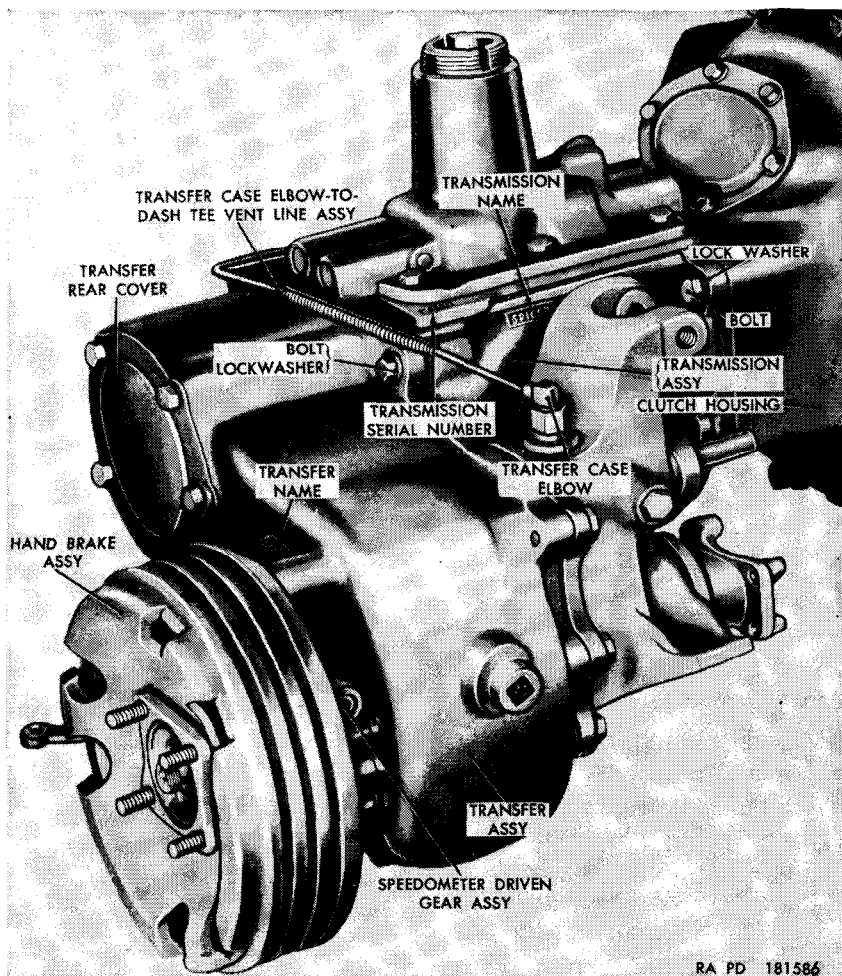

Figure 90. Transmission and transfer installed on engine.
(fig. 90)
- c. Remove the two bolts and lockwashers securing the clutch linkage inspection cover (fig. 31) and remove the cover. Reach through the inspection hole and disconnect the clutch release bearing carrier spring from the carrier and the bracket on the clutch housing and remove the spring. Remove four bolts and lockwashers (fig. 90) securing the transmission assembly to the clutch housing and remove the transmission by sliding straight back until the input shaft is clear of the housing.
a. Insert the transmission input shaft into the clutch housing, through the clutch release bearing and clutch disk, and into the clutch pilot bearing. Install four  $\frac{7}{16}$  x  $1\frac{1}{4}$  bolts and lockwashers (fig. 90) securing the transmission to the clutch housing. Working through the inspection hole in the top of the housing, install the clutch release bearing carrier spring by hooking one end to the bracket on the housing and the other end in the hole in the carrier. Place the clutch linkage inspection cover (fig. 31) over the inspection hole and secure with two  $\frac{1}{4}$  x  $\frac{1}{2}$  bolts and lockwashers.